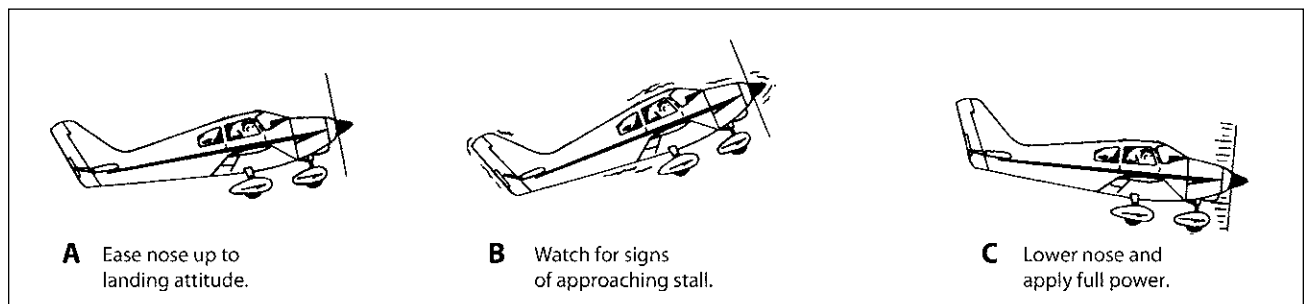

Figure 12-5. Approach to a stall.
4. Hold the nose at this point by continued back pressure—keep the nose directionally straight by looking alongside it at a reference point on the horizon. The use of the elevators in approaching the stall can be likened to a vicious cycle. As the plane is slowed by the elevators, the nose tends to drop—requiring more up-elevator, which slows the plane further, requiring more elevator, etc. The point where the wheel or stick is all the way back and the nose drops is the stall “break.” In the approach to a stall, the process does not go as far as the break (Figure 12-5).